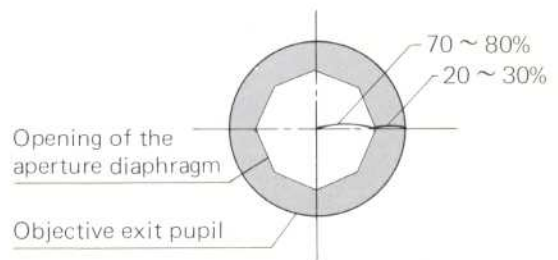

Fig. 16
- After completing focus adjustment, remove one of the eyepieces from the observation tube and look into the empty eyepiece tube. As you stop down the aperture iris diaphragm, the image of the iris diaphragm can be seen in the objective pupil. Adjust the opening of the diaphragm to match the N.A. of the objective in use. If the specimen is low in contrast, it is recommended to stop down to 70% ~ 80% of the objective N.A. (Fig. 16)